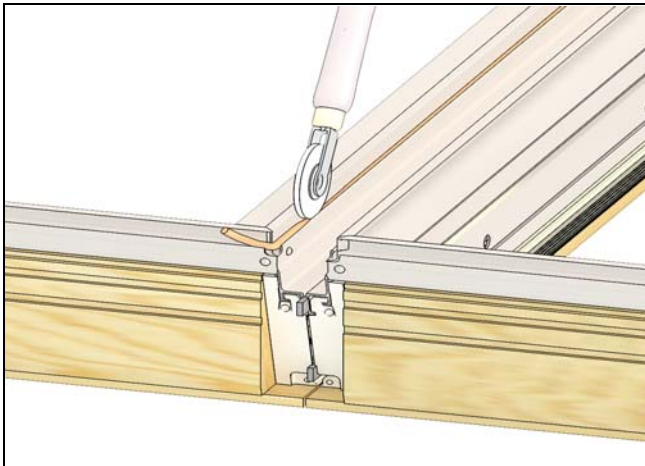

Figure 9
10. Carefully turn assembly over (exterior side up). Apply frame kerf weather strip to the vertical accessory kerf at mullion on both windows with a screen spline roller. Wrap around corner approximately 1" (25) by the of horizontal accessory kerf. See Figure 9.